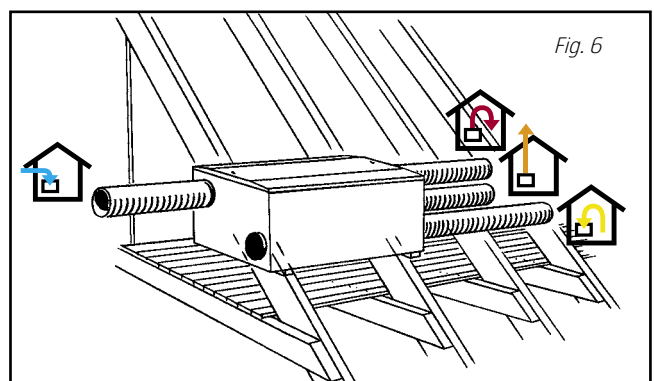

Fig. 6
- Extract air, supply air and exhaust air ducts on one side and outdoor air on the other side of the unit (Fig. 6)